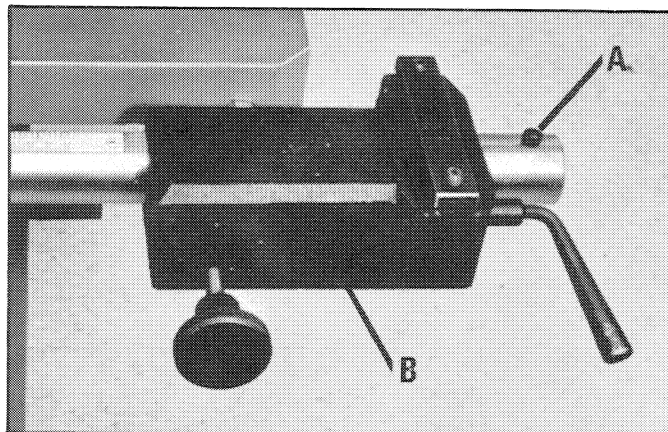

Fig. 17
3. Fig. 17, illustrates fence body (B) assembled to guide rail. Replace stop screw (A) Fig. 17, that was removed in STEP 1.